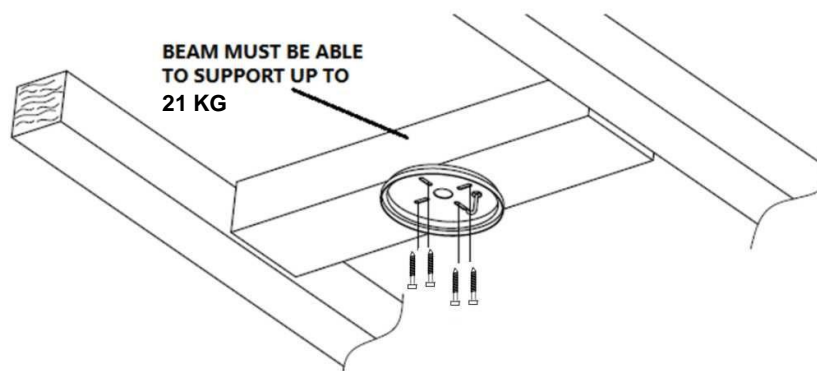

Fig. 2
- Install the hanging bracket to the ceiling joist or structure that is capable of carrying a load of at least 21kg, with the 4 long screws provided. Ensure at least 30mm of the screw is threaded into the support. (Fig. 2)